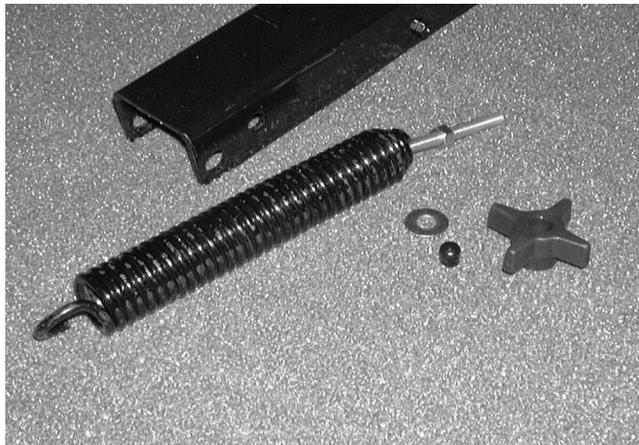

FIGURE 5.
5. Remove the plastic cap, knob, and washer from the blade adjusting spring bolt. Adjust the hex nut on the bolt so that it is threaded approximately 1" onto the bolt. Hook the spring over the spring mount rod. See figures 5 and 6.